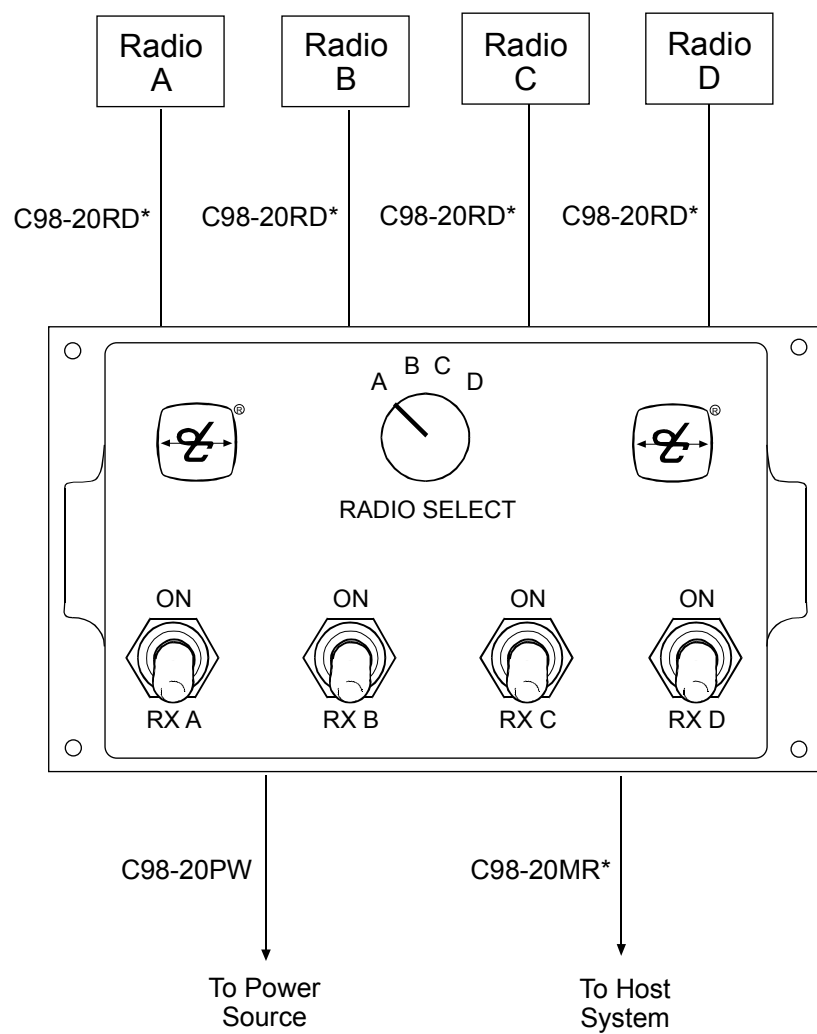

Figure 1: Typical Layout
Primary components of the system are indicated in **Table 1**. In addition, a basic layout of the system is shown in **Figure 1**.
- ☐ Determine which radio letter this radio is (i.e., Radio A, B, C, or D) and connect Radio Cable to the M-RIM. See **Figures 1&4** for connector locations.
- ☐ Route the cable and connect to the M-RIM. See **Figures 1&4** for connector location.
- ❑ Connect the cable to the jack on the M-RIM labeled “Power”, see **Figures 1&4**. To connect the cable to the M-RIM, align keyways and push. Then push and turn collar clockwise until it locks into place. Pull back gently on the cable to ensure connector is properly locked.